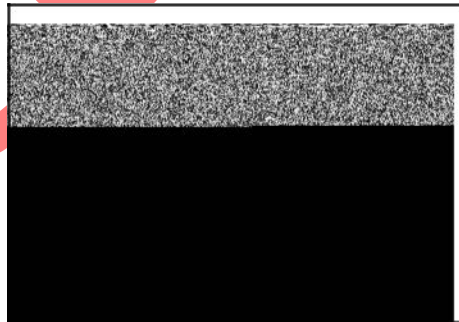

Figure 11
4. Dual Circuit (Figure 11)
- 3 Amps DC unregulated for charging battery, red lead from stator (A)
- 14 Volts AC for lighting circuit, black lead from stator (B)
- White connector (E) with two pin terminals
- White lead (D), AC current for lights
- Red lead (C), DC current for charging circuit